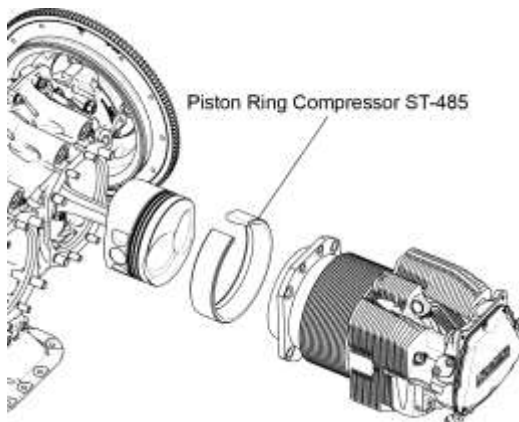

Figure 30
E. Use the Piston Ring Compressor (ST-485) to install the cylinders (Figure 30) as follows: